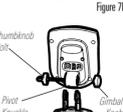

Figure 8
4. Insert the thumbknob bolt through the pivot knuckle on the control head (Figure 8).